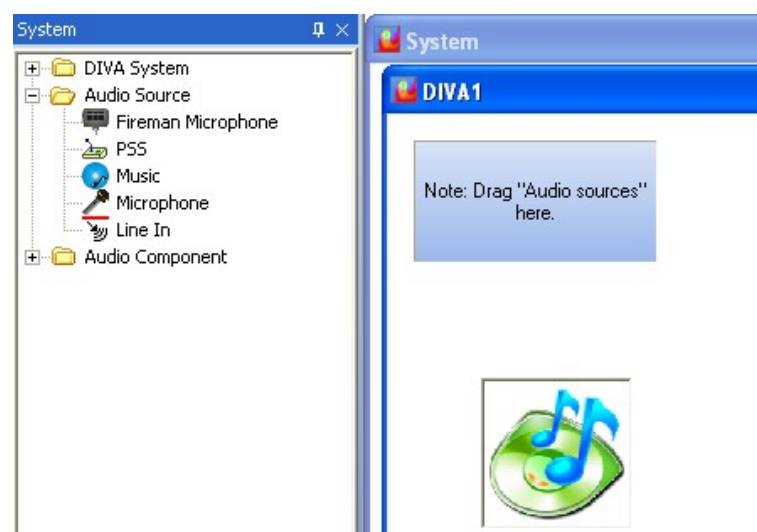

Figure 11: Adding music source
- In the tree folder, click on audio. It will display all the audio sources available for DIVA. Simply drag and drop the music icon on the corresponding drawing in the DIVA1 window (Figure 11). The connection picturing will automatically show that the connection exists.